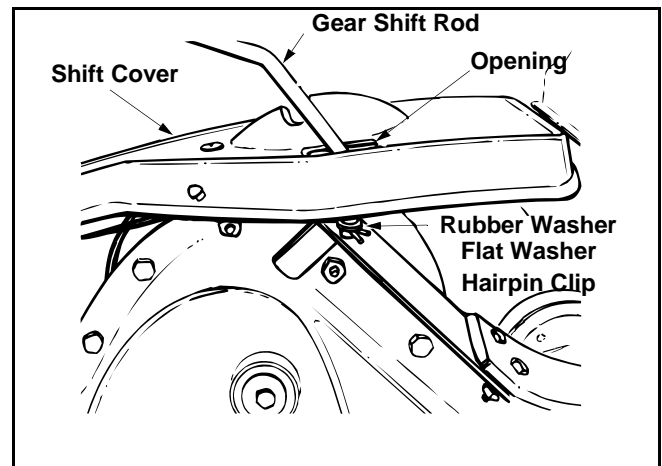

Figure 6
- Insert the end of the gear shift rod through the opening in the top of the shift cover, and into the shift bracket. Secure with rubber washer first, then flat washer and hairpin clip. See Figure 6.